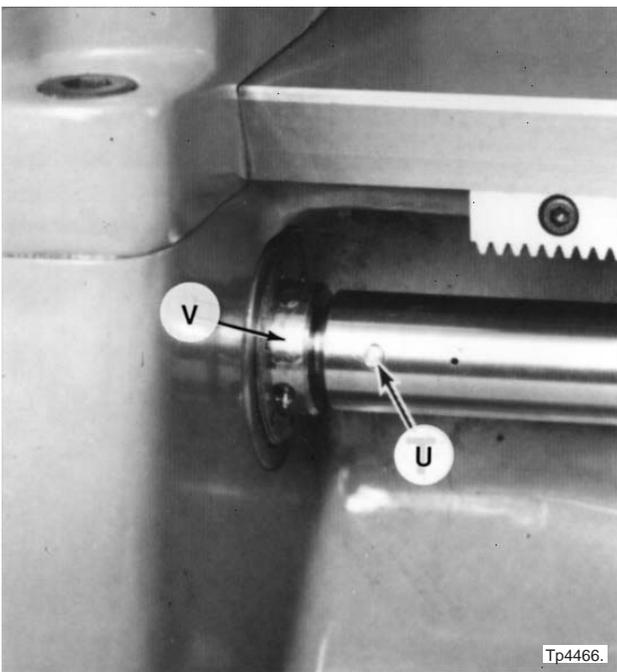

Figure 4.10 - Lock Nut and Taper Pin for Lead Screw
9. Remove taper pin "U", Figure 4.10 .
13. Remove lock nut "V", Figure 4.10 .